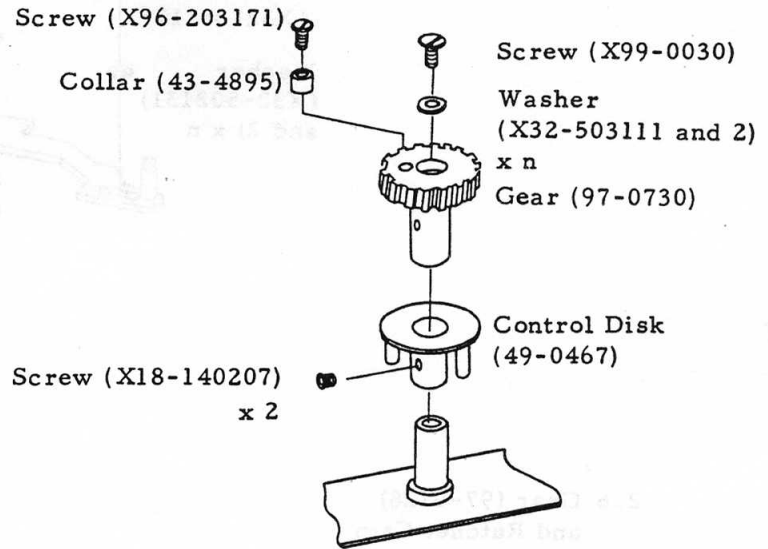

Fig. 8
Collar.) See Fig. 8.
- 3) Install the parts as shown in Fig. 8.